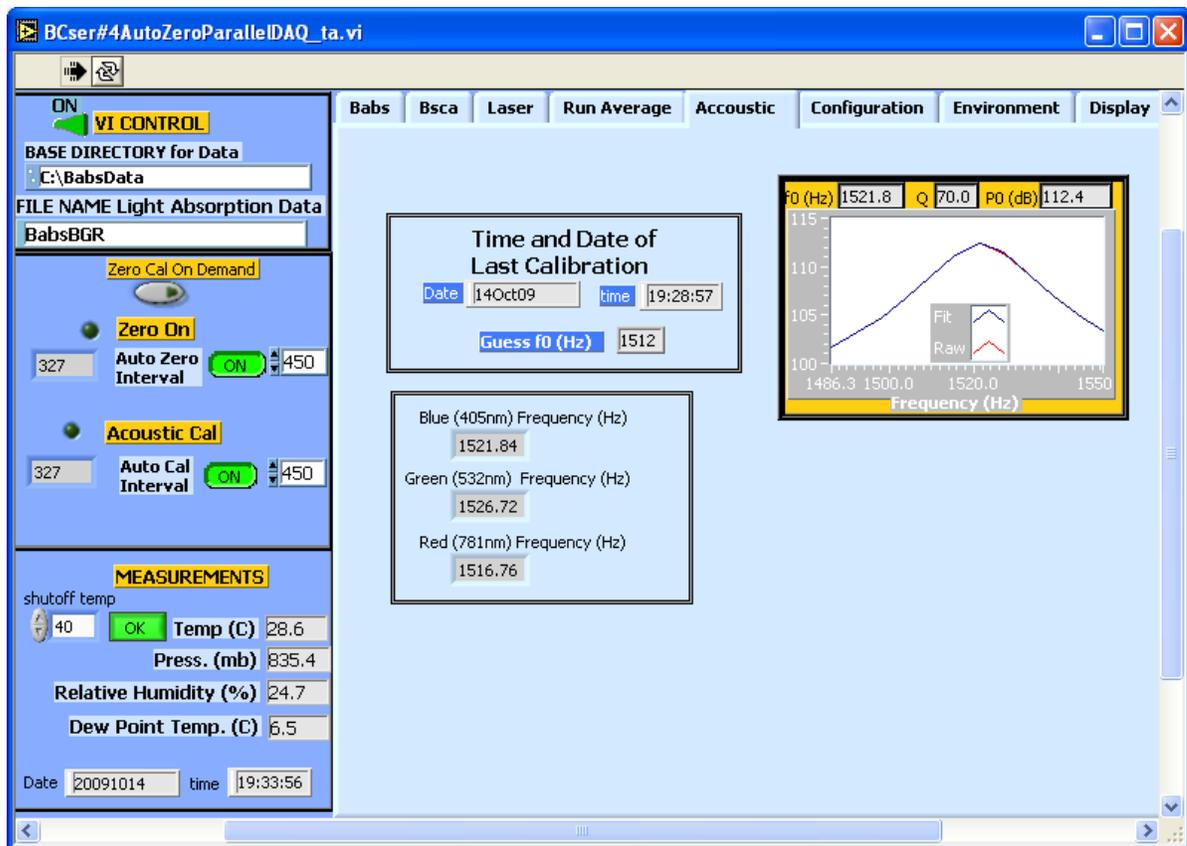

Figure 17: Acoustic Tab
Information about the last acoustic calibration is found on the **Acoustic tab** (Figure 17). The data and time of last calibration is located in the center top part of this tab. Below the date and time is the initial guess used for finding the resonance frequency of the acoustic chamber. A graph of the resonance curve is displayed in the middle of this tab with three indicators about the graph. They are the resonance frequency (f_0 (Hz)), quality factor (Q) of the resonance curve, and the pressure on resonance (P_0 (dB)). The lower part of the **Acoustic** has a box displaying the frequency in Hz that the PASS-3's three lasers are modulated at.